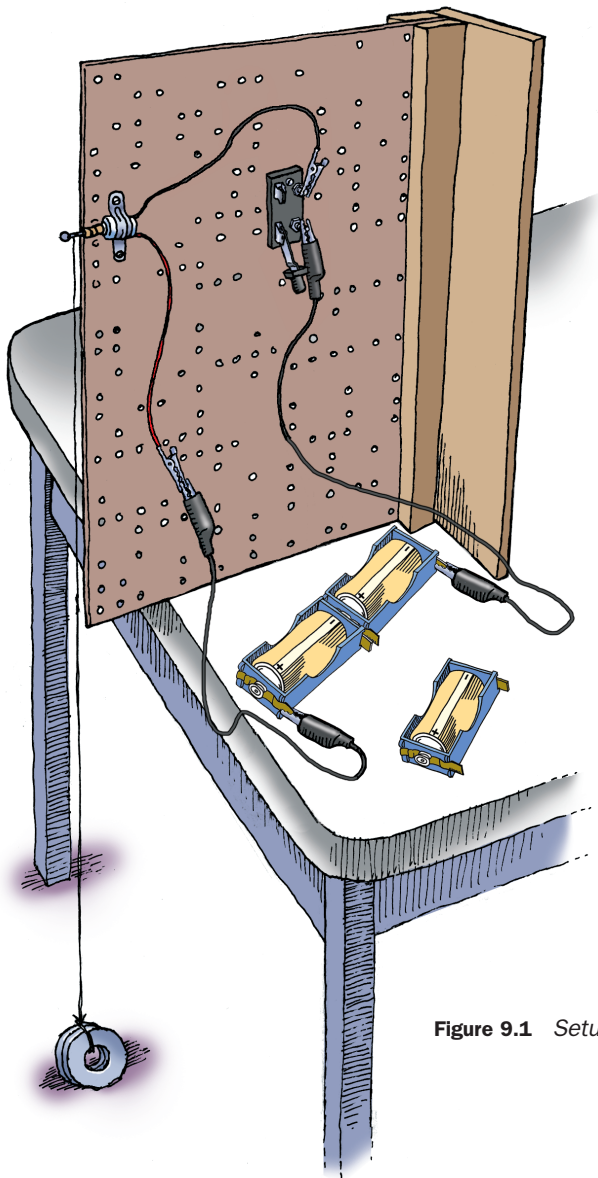

Figure 9.1 Setup for Inquiry 9.1
1. Set up the pegboard assembly as shown in Figure 9.1. Include each of the following steps: